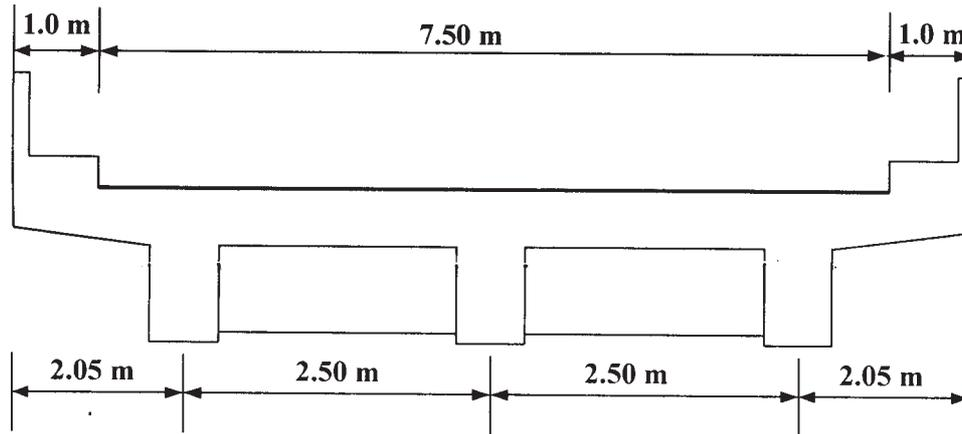

Fig. 3
**Q3)** An R.C. T-Beam deck slab bridge shown in Fig. 3 has the following details.**[25]**